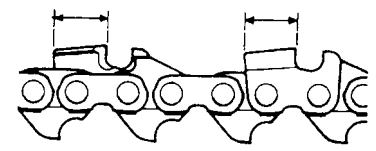

Fig. 4-6
5) Keep all cutters the same length. (Fig. 4-6)